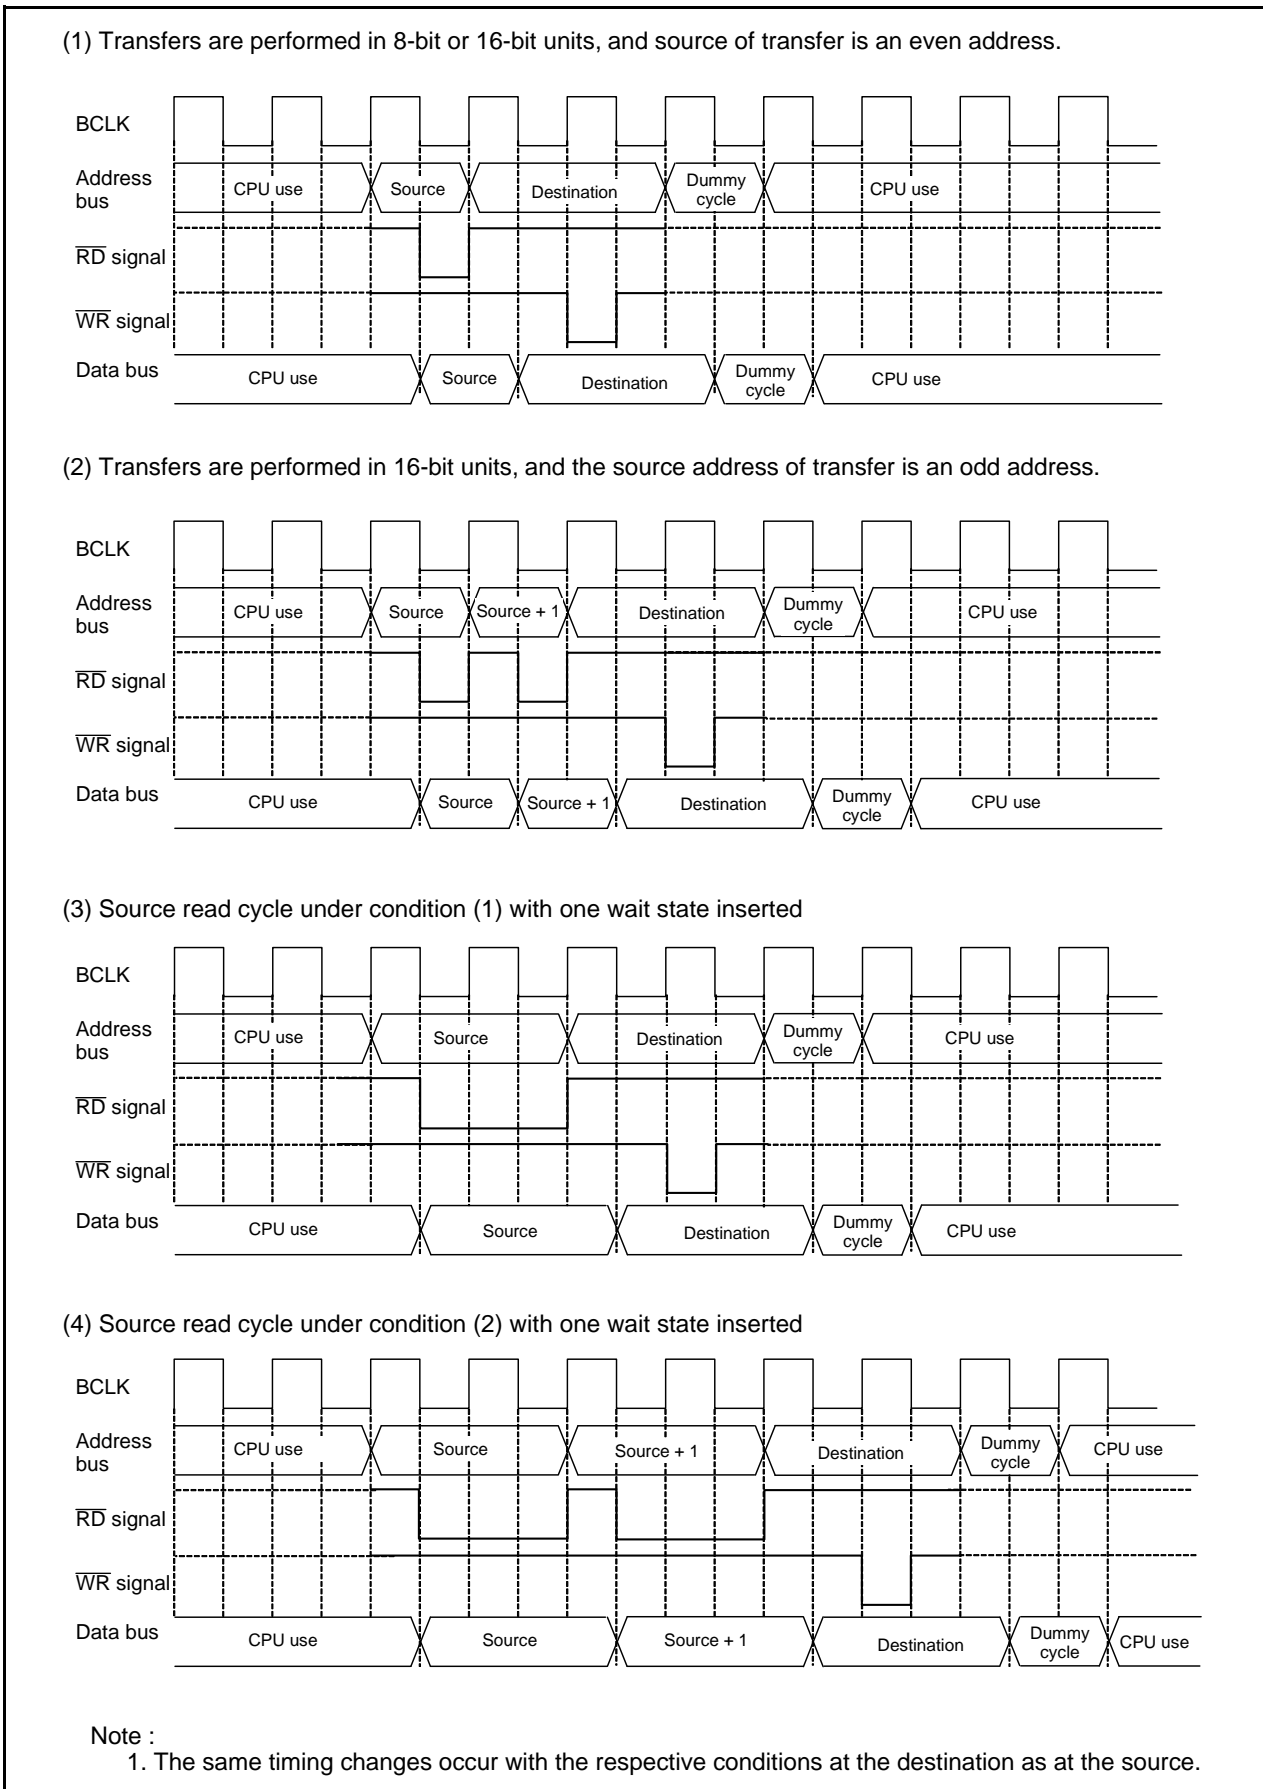

Figure 16.2 Transfer Cycles for Source Read Operations
Figure 16.2 shows Transfer Cycles for Source Read Operations. For convenience, the destination write cycle is shown as one cycle and the source read cycles for the different conditions are shown. In reality, the destination write cycle is subject to the same conditions as the source read cycle, with the transfer cycle changing accordingly. When calculating transfer cycles, take into consideration each condition for the source read and the destination write cycle. For example, when data is transferred in 16-bit units using an 8-bit bus ((2) in Figure 16.2), two source read bus cycles and two destination write bus cycles are required.